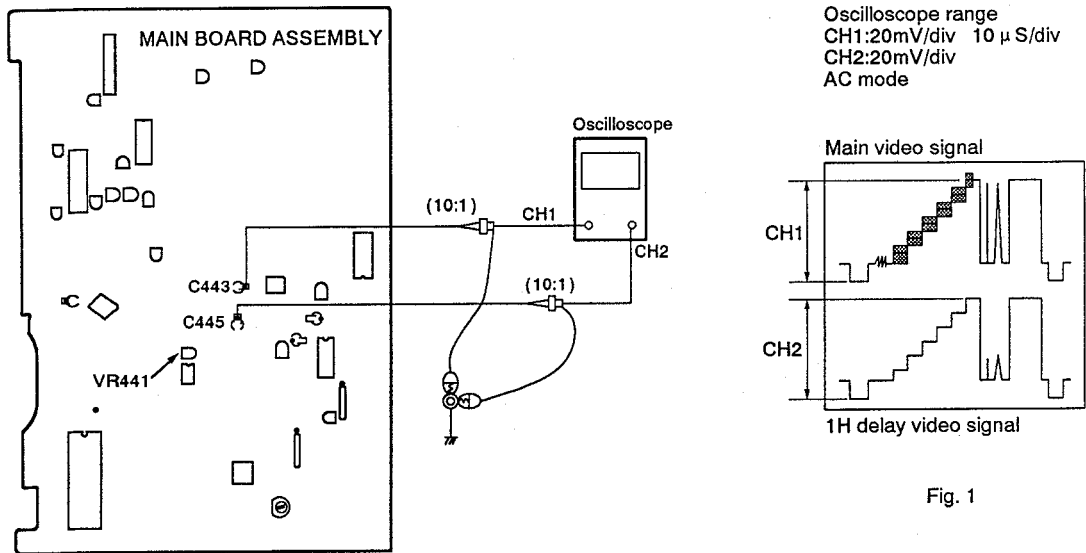

Fig. 1
3. Adjust VR441 so that the 1H delay video level (CH 2) becomes the same as the main line video level (CH 1). (See Fig. 1)